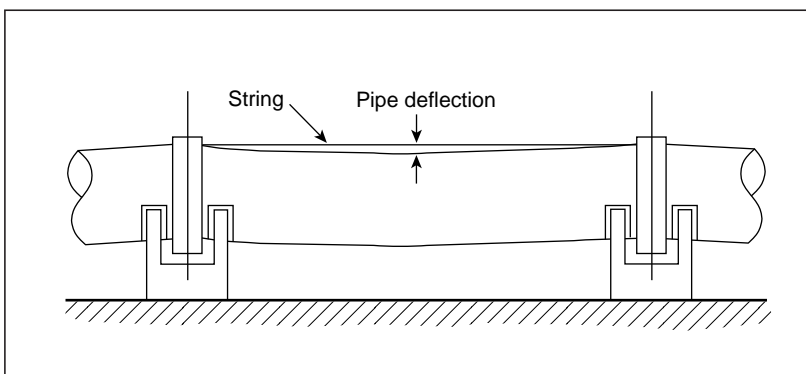

Figure 5.2
Note: The weight of fluid in the pipe will cause rotation of pipe ends (*Figure 5.2*).
(2) Supports
- Measure the maximum deflection of the pipes for each pipe span. The pipe deflection can be measured by using a tensioned string as a reference (*Figure 5.2*).
Note: In addition to the Poisson's effect, the pressure increase in the pipe can cause slight rotation of pipe ends (*Figure 5.2*).
(4) Pipes